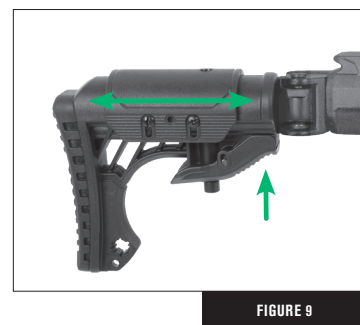

FIGURE 9
**To adjust the butt stock** (Part 23), press the lever found on the bottom front of the stock, as seen in Figure 9. While the lever is depressed, slide the stock from position 0 (shortest) to 5 (longest). Position numbers are viewable from the top of the crossbow, through a hole through the cheek piece. Release the lever to lock the butt stock into place.